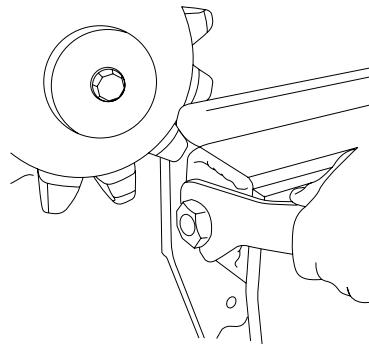

Figure 26
1. To adjust or remove the chain – remove the 1/2" bolt and the spanner wrench from the outer boom [Figure 26].
2. Use the spanner wrench to turn adjuster nut clockwise to loosen, and counter-clockwise to tighten [Figure 26].